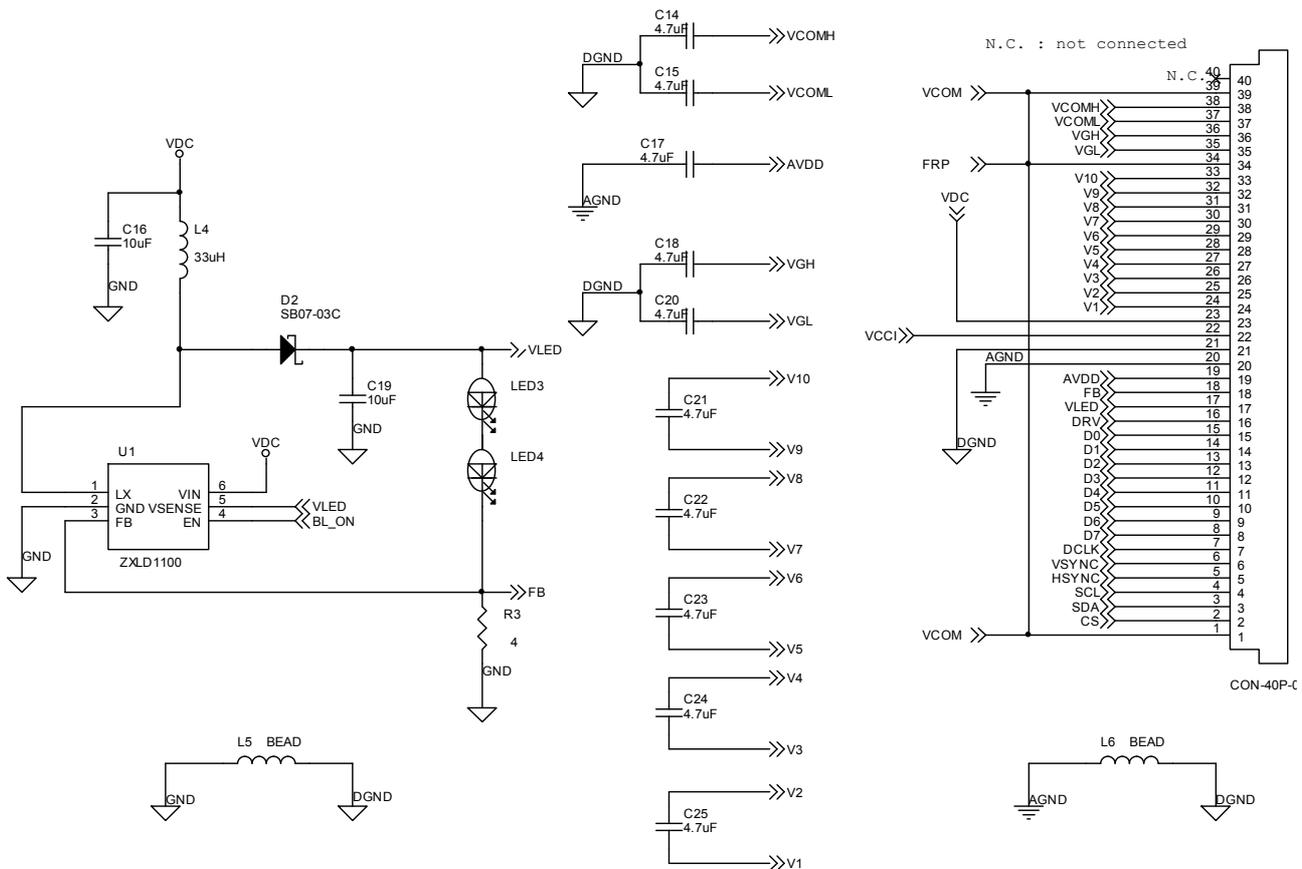

Fig.14 External LED driver Circuit
See Fig. 14 for the application circuit.
According to Fig. 14, the LED driver(ZXLD1100) and R3(4 ohm) with 0.1V feedback (FB) can provide constant 25mA current for LED backlight unit. To control the back light on/off timing, user should create a control signal BL_ON (please refer to the ZXLD1100 date sheet). The LCD driver output DRV signal can also be used to drive BL_ON.